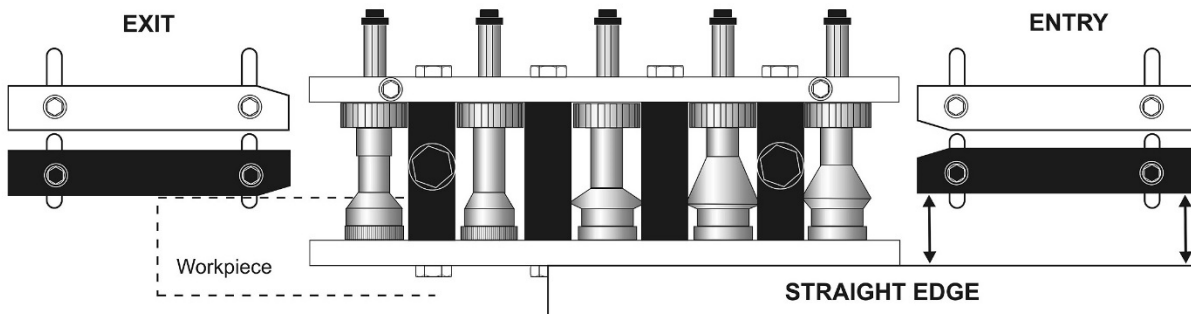

Figure 7-2: Pittsburgh Lock Seam setup
2. Adjust entry fence, using a straight edge. See Figure 7-2. Entry fence position determines width of hammer-over edge. Tighten both nuts on entry fence.
If a wider or narrower hammer-over edge is desired, move entry fence to give desired width. Move entry fence *in* to produce wider edge, *out* to produce narrower edge. Make sure to move both ends of entry fence the same distance, keeping it parallel to front edge of machine's top plate. See Figure 7-2.